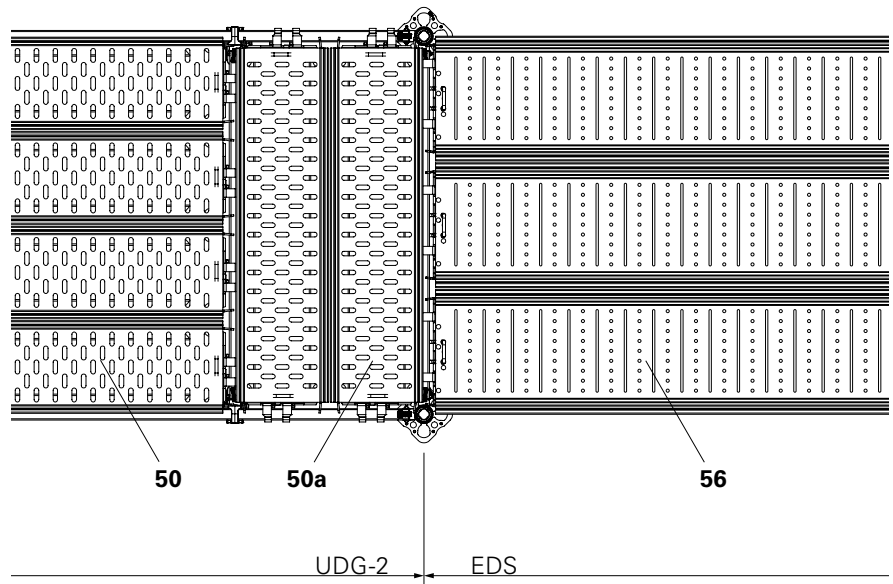

Fig. A7.02d
6. Install Decks EDS (**55**) in the following bay. (Fig. A7.02d)